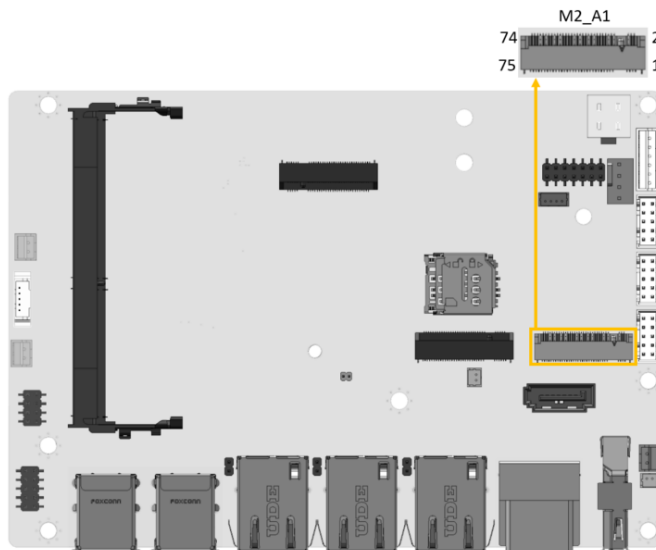

Figure 3-30: M.2 A-key Slot Location
- CN Location:** See **Figure 3-30**